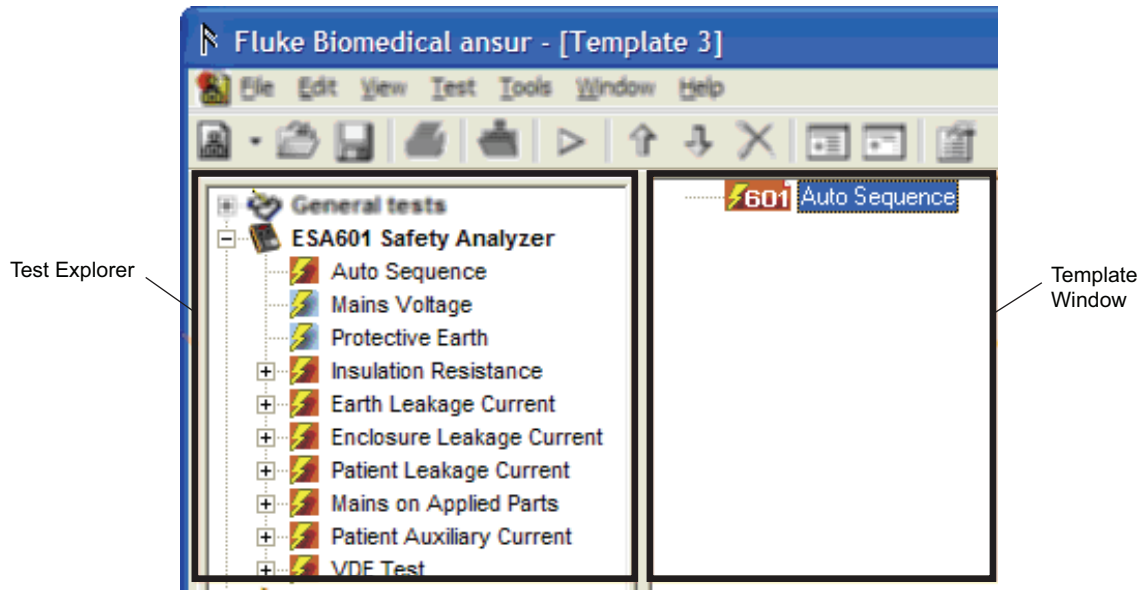

Figure 3-17. Auto Sequence added to Template
3. Click and hold on the Auto Sequence entry in the test explorer window and drag and release it in the template window. A copy of the Auto Sequence should appear in the template window as shown in Figure 3-17. The Auto Sequence entry is a holder of tests that are executed when called.